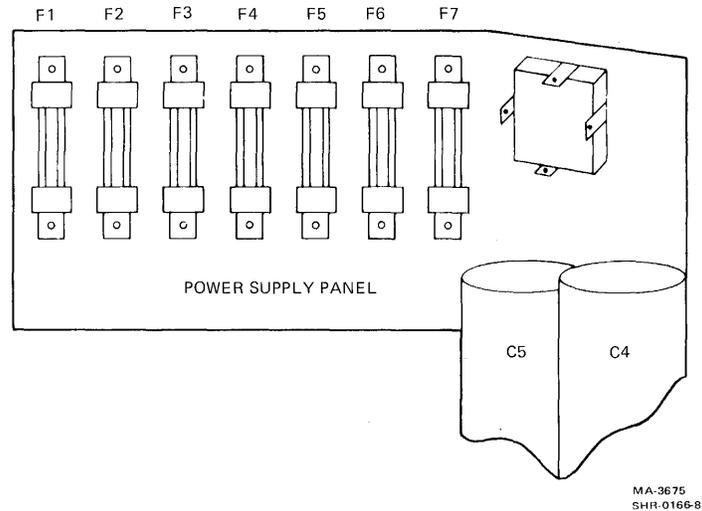

Figure 3-1 Power Supply Fuse Panel
5. With a digital voltmeter (DVM) check all the unregulated dc voltages at fuses F1 through F7 with respect to chassis ground. The fuses are on the power supply fuse panel. Refer to Figure 3-1 for fuse locations and Table 3-3 for proper voltage readings. If the readings are incorrect go to Chapter 5 for troubleshooting information.